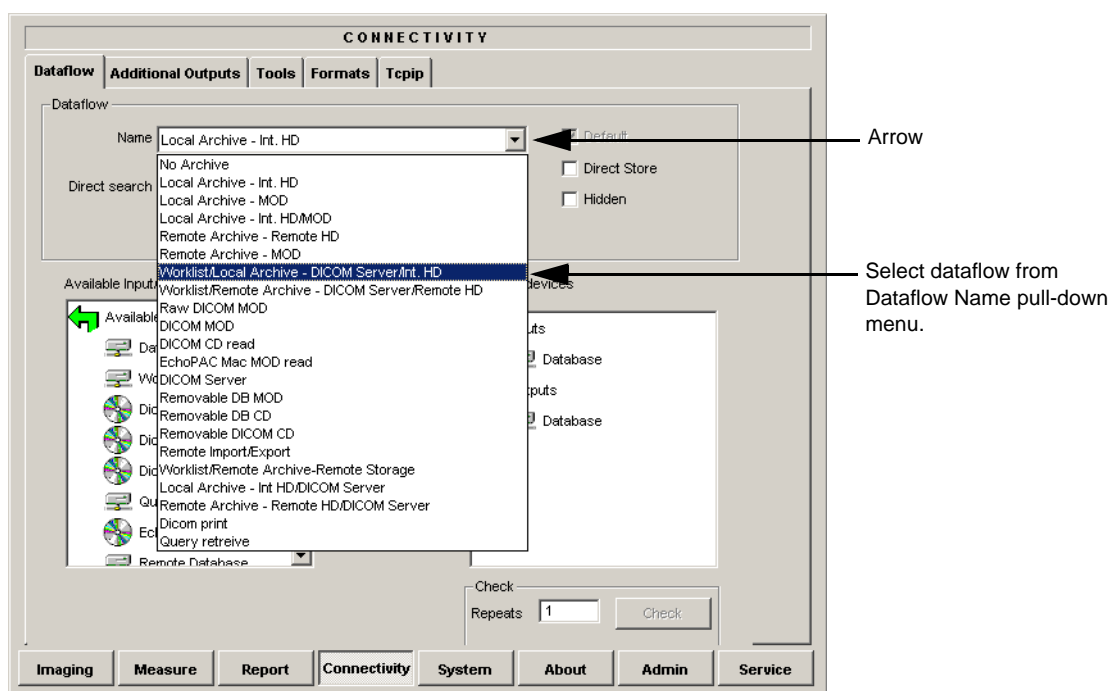

Figure 3-95 Select Dataflow
- 4.) Select the arrow to the right for the Name field to list all dataflows in a pull-down menu, see Figure 3-95.
- 5.) Select the dataflow you want to configure from the Dataflow Name pull-down list, see Figure 3-95.